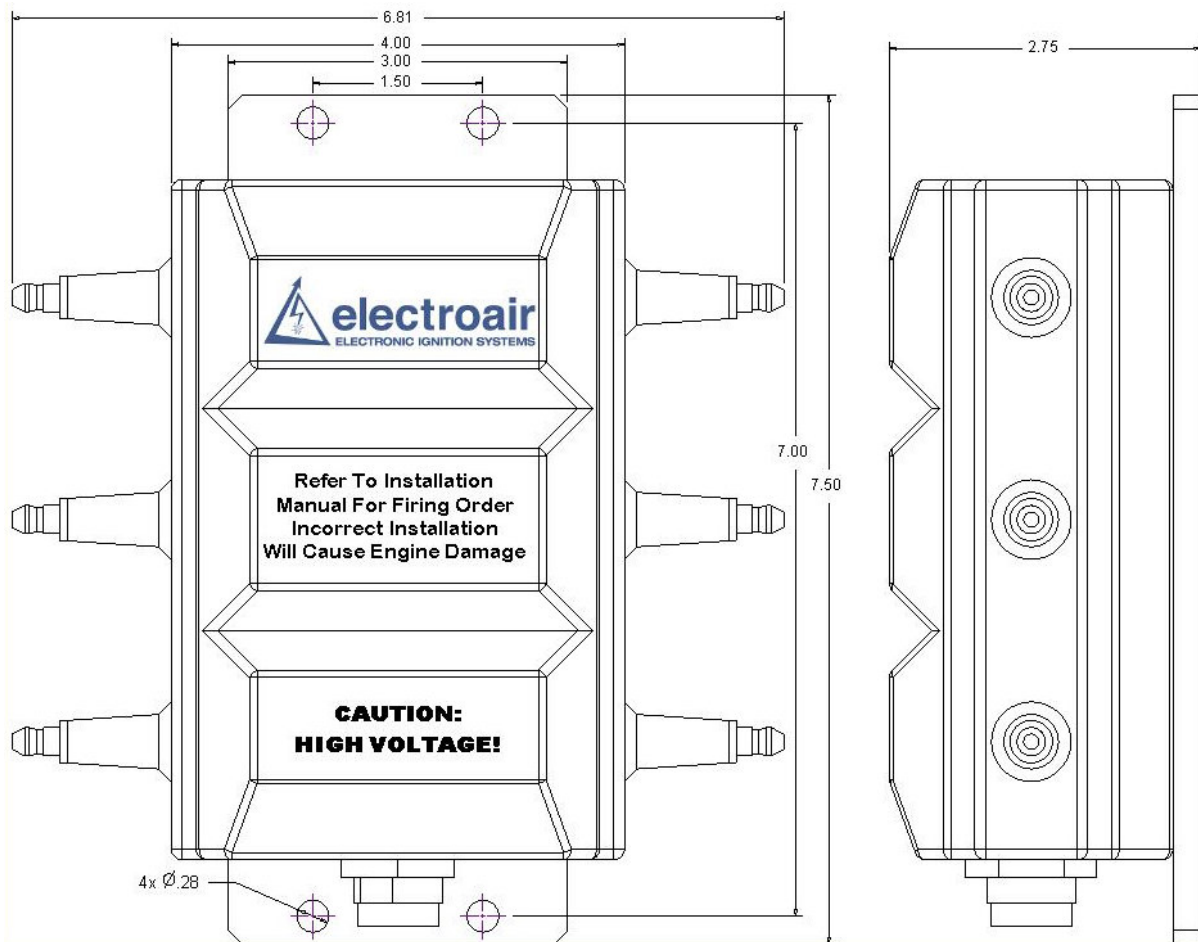

Figure 9: Part Number EA-8000 Dimensions
- b. **EA-8000 Installation:** The Coil Pack is designed to be installed on the engine side of the firewall. Locate the unit in a position to keep the spark plug wires as short as possible and not interfere with other components or create maintenance difficulties in the future. Electroair strongly suggests that the Coil Pack be positioned so that the connector on the coil is facing straight down, but it can be positioned in any orientation if the installation requires alternate positioning. See figure 9 for the Coil Pack dimensions.
- iii. Slide the aluminum nut, receptacle, and Viton gasket on the wire. Approximately one inch of wire should extend past the gasket. See figure 9.